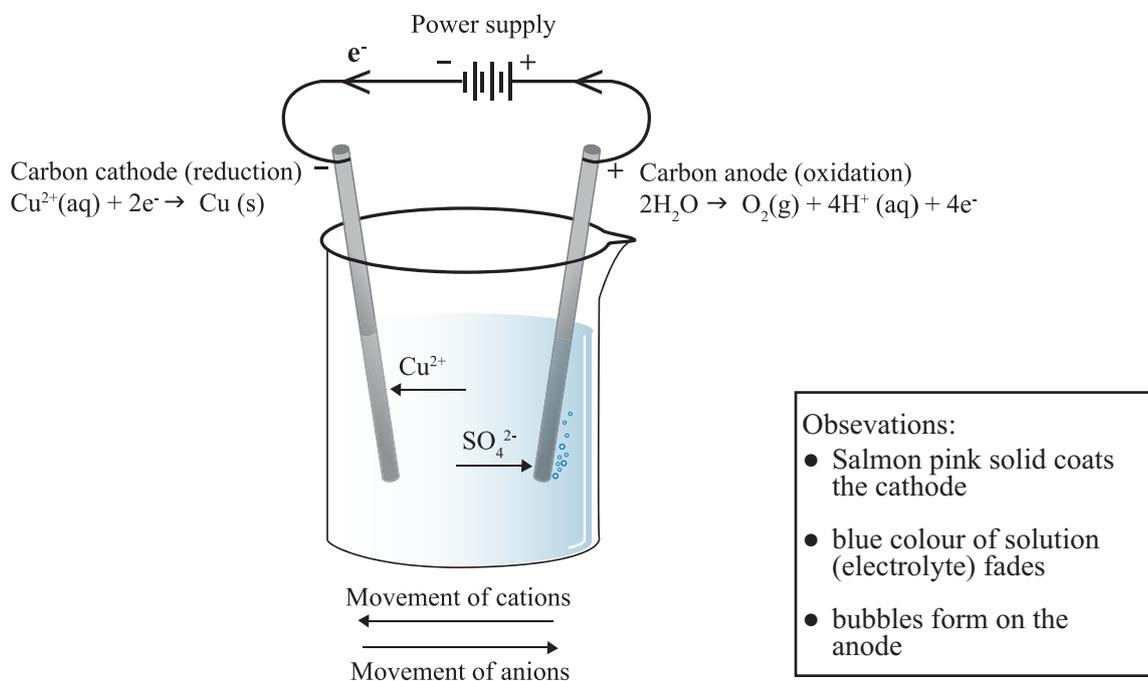

Figure 22.1: Electrolysis of copper sulfate
**The products of electrolysis** depend on the nature of the electrolyte and electrode material. In the electrolysis of a molten metallic salt using inert electrodes the metallic cations are reduced at the cathode and the anions are oxidised at the anode. This is shown in as in Figure 22.1. Inert electrodes like carbon and platinum are rarely involved in electrolysis reactions. However, if a reactive metal is used at the anode, it may undergo oxidation in preference to other reactions. The products of electrolysis in aqueous electrolyte solutions also depend on the relative  $E^\circ$  values of the possible half reactions at the electrodes (see example 2), and the concentration of reactants.